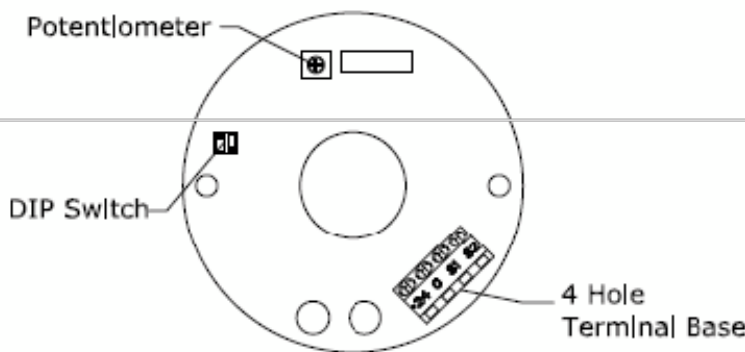

Fig 4
**Type:** (See Fig 4)
As same as above LED Type in Single Unit (See Fig4)
The LED beacon provides flashing and rotary status to be selected. Use **DIP Switch** with 2 binary codes on the **LED Beacon PCB** to select flashing or rotary status (including steady status). Adjust the **Potentiometer** on the **LED Beacon PCB** (see Fig 4) for frequency adjustment. For fastest stage frequency, the potentiometer should be set to fully clockwise position.